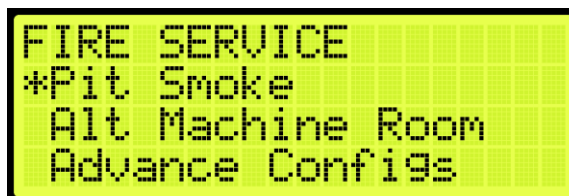

Figure 598: FIRE SERVICE Menu – PIT Smoke
- From the FIRE SERVICE menu, scroll and select PIT Smoke (See Figure 598).
2. From the FIRE SERVICE menu, scroll and select PIT Smoke (See Figure 598).